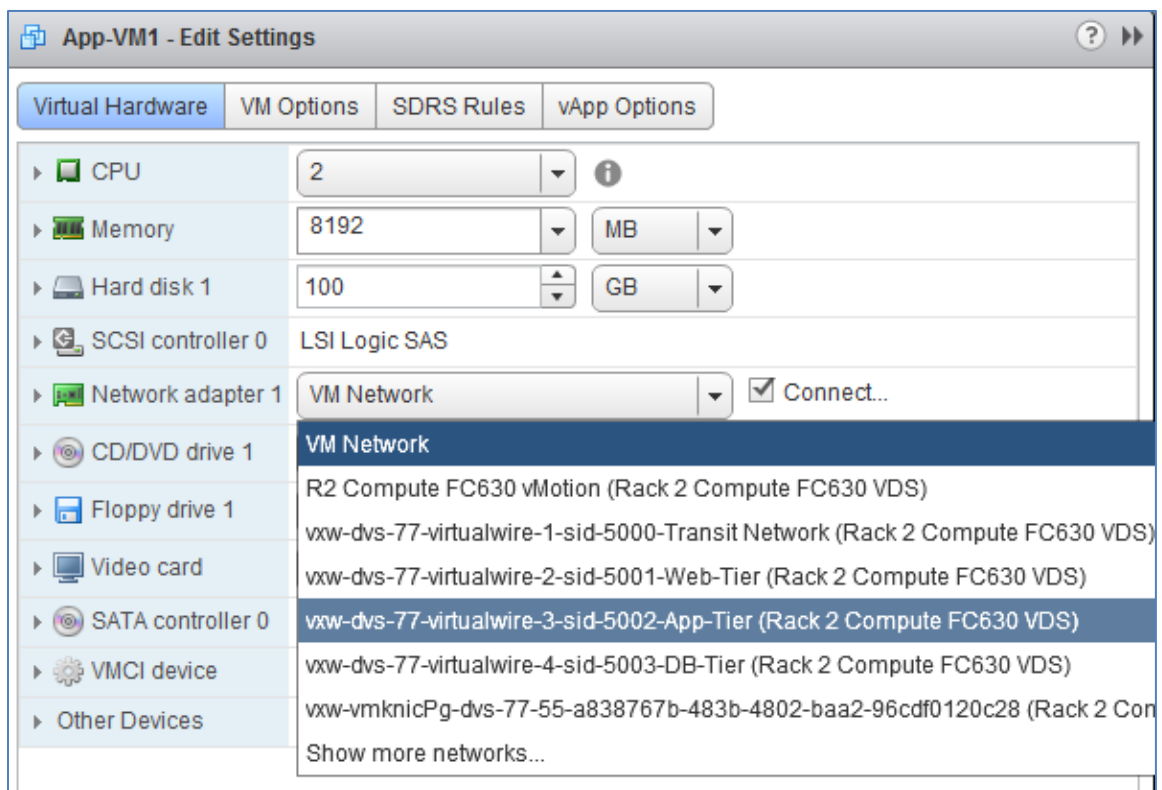

Figure 85 Virtual wire on App-Tier network selected
3. Next to the **Network adapter**, select the virtual wire on the **App-Tier** network as shown in Figure 85.